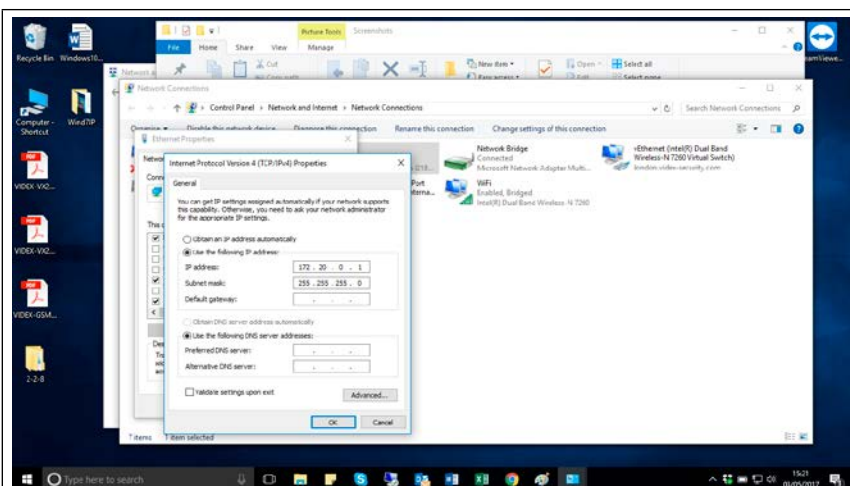

Fig. 6 Set IP address and subnet mask
6. Once testing is complete and all the necessary adjustments are made, disconnect the handset from the cover and close the unit as shown in Fig. 6: first hook it on the bottom then push in the top until you hear a "CLICK!".